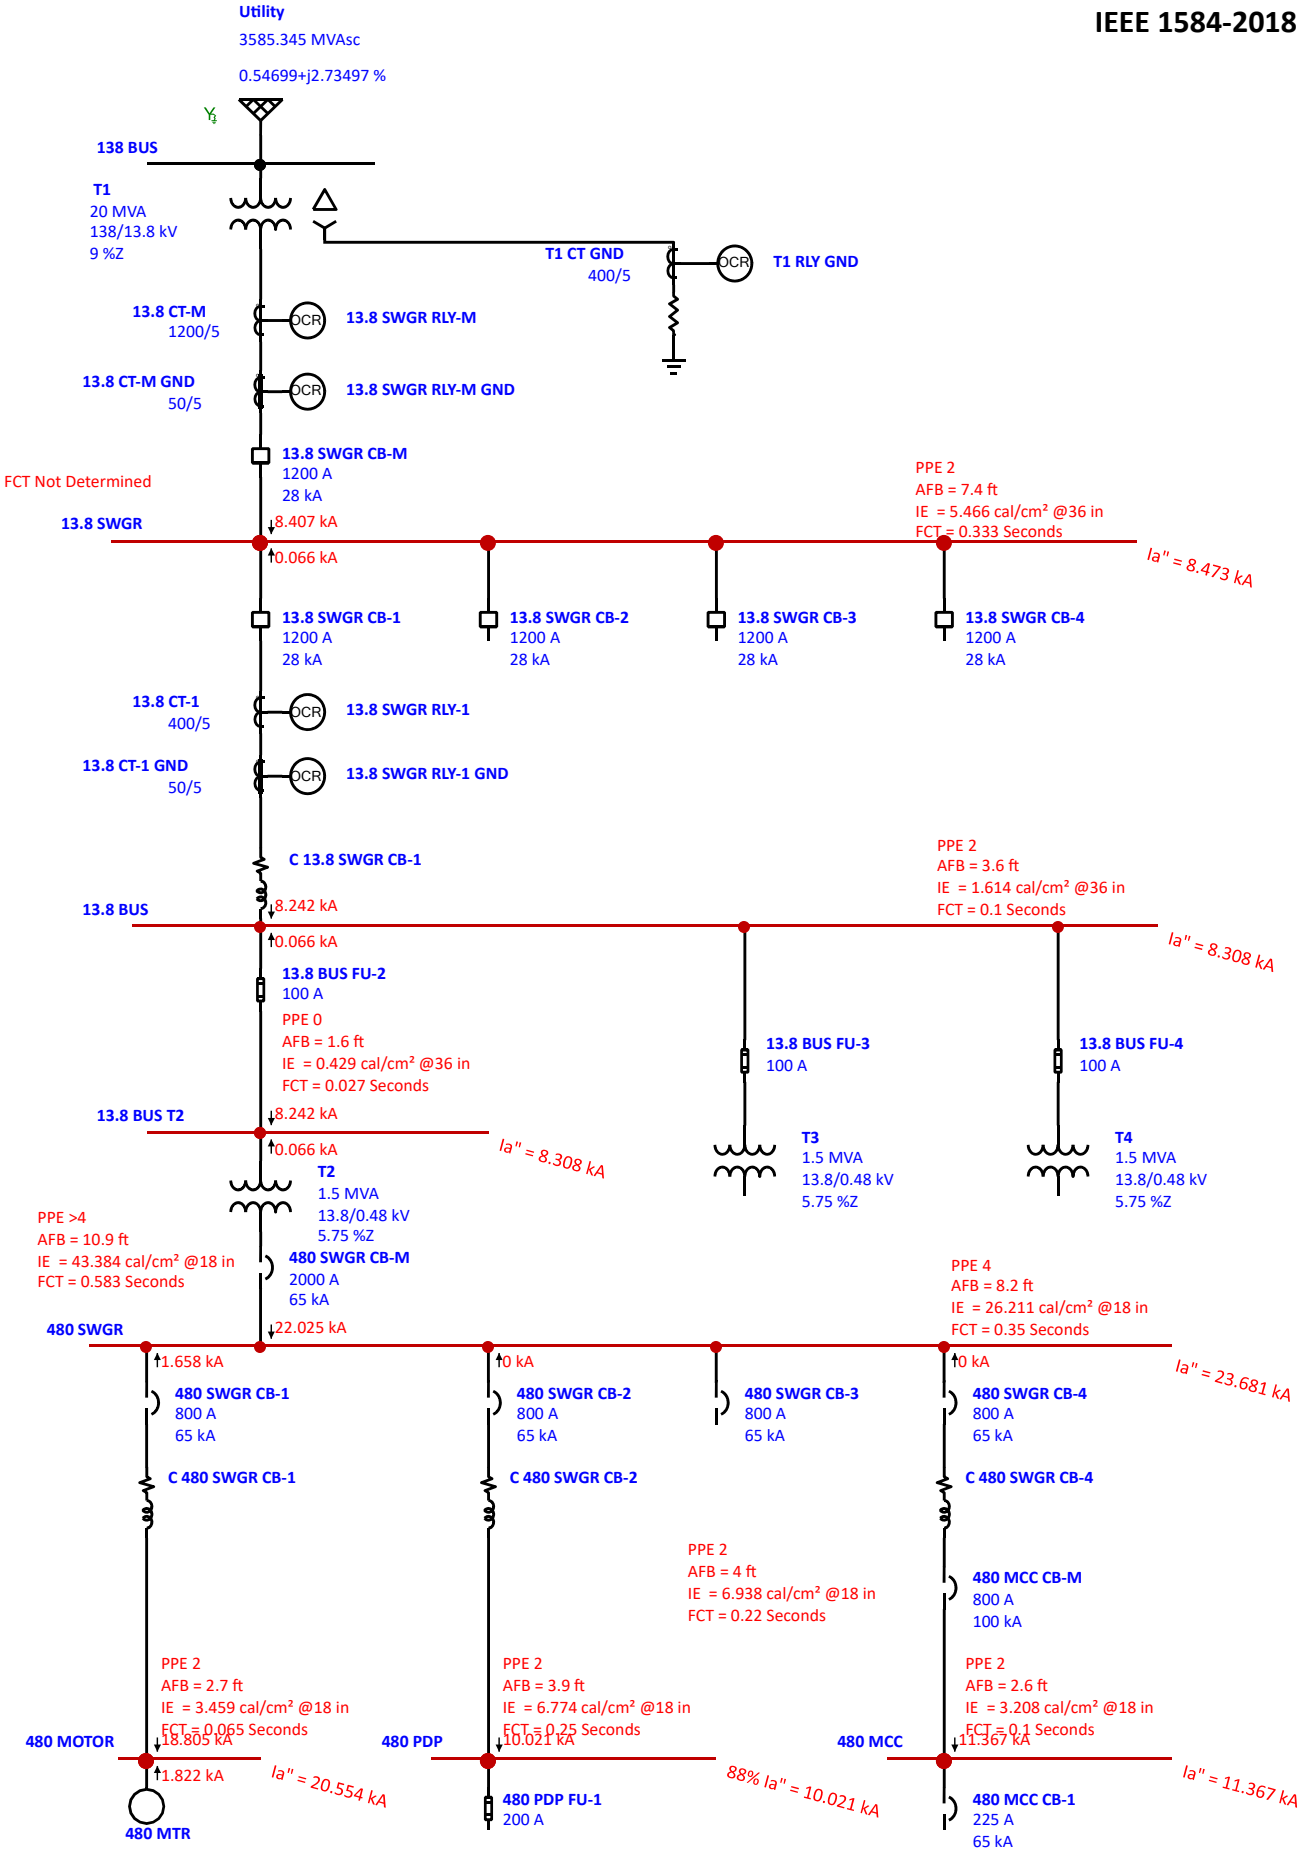

Figure 5
- Figure 5 IEEE 1584-2018 VCBB Configuration